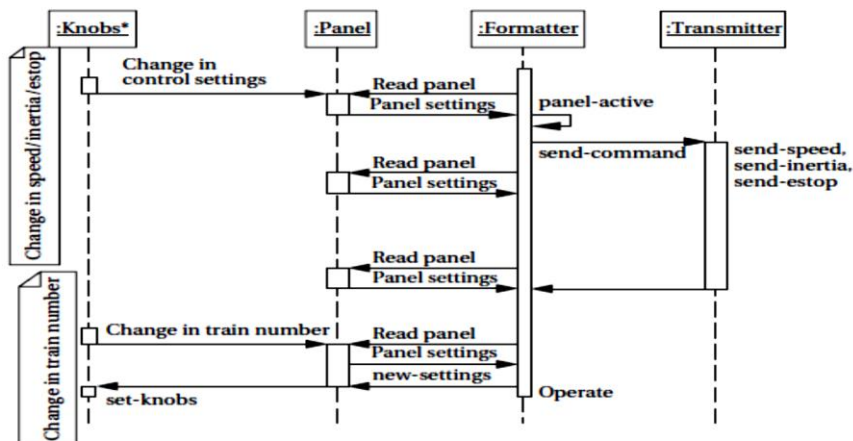

FIGURE 1.24
- ✓ The role of the formatter during the panel's operation is illustrated by the sequence diagram of Figure 1.24.